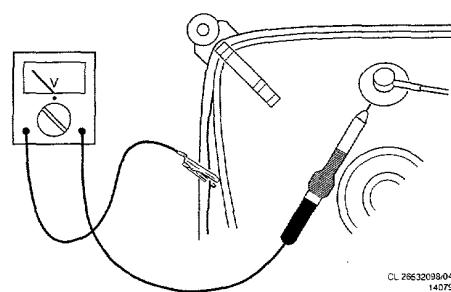

Fig. 3.1
1. In order to prevent damage to IC's and transistors, all high-voltage flashovers must be avoided. In order to prevent damage to the picture tube, it should be discharged using the method shown in Fig.3.1. Use a high-voltage probe and a multimeter (position DC-V). Discharge until the meter reading is OV (after approx. 30s).